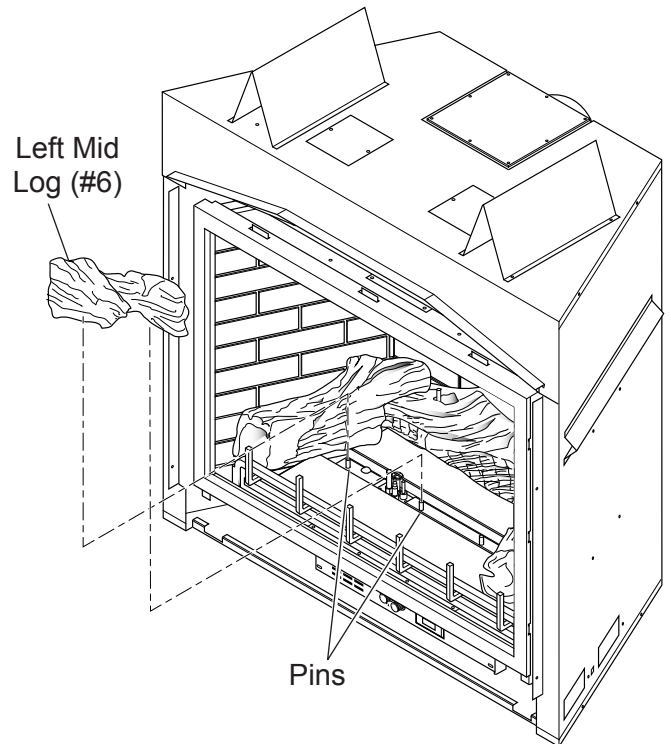

Figure 45 - Installing Left Mid Log (#6)
6. Place left mid log (#6) on two left pins on burner assembly. See Figure 45.